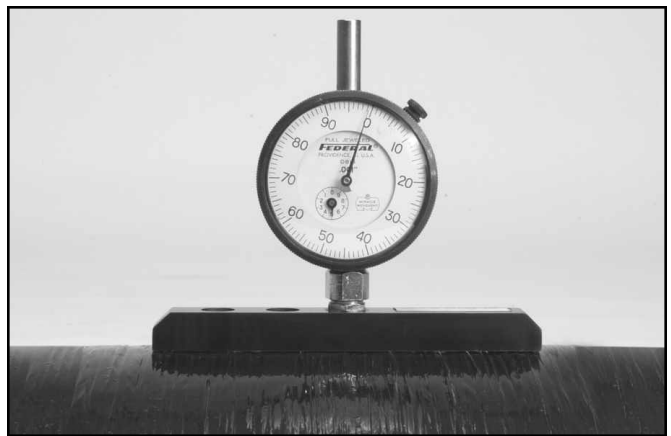

Figure 6-10 Inspection of Damage Depth
2. Visual Examination- Visual examination of the composite tank surface is the primary means of detecting tank damage. Evidence of potential damage includes cuts, scuffs, scratches, surface distortions, material removal, discoloration of the tank surface, and deterioration of the surface. If visual examination reveals damage, the area of damage must be carefully measured for depth using the gauge shown in Figure 6-10.